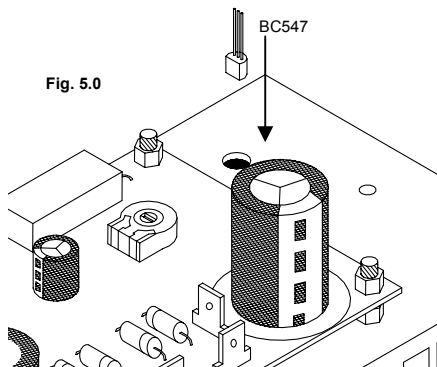

Fig. 5.0
- Insert the transistor (BC547) in the hole (Fig. 5.0). Pay attention to the position of the transistor (fig 6.0)!